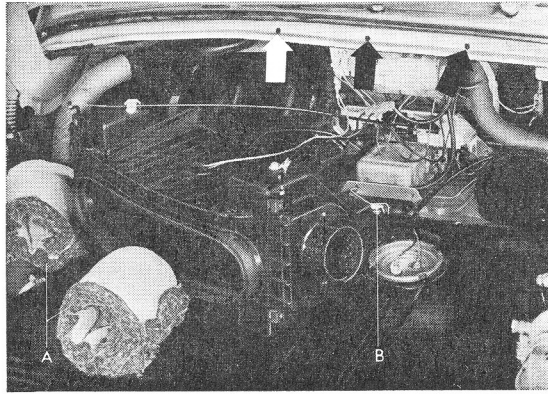

Figure 3
- 3 – Remove fresh air box for blower (see Fig. 3). Take out three tapping screws (arrow) and loosen the clip (B). The textile hoses can be unbuttoned.